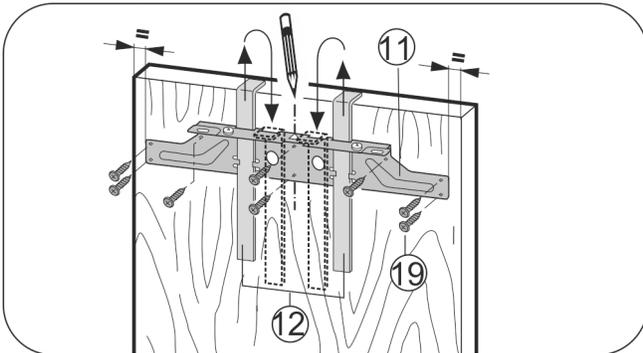

Fig. 29
- ▶ Hang the crosspiece Fig. 29 (11) on the inside of the unit door using the fitting aids Fig. 29 (12). With a 600 mm (1.97 ft) wide recess:
- ▶ Align the crosspiece Fig. 29 (11) to the middle of the door.
- ▶ Secure the crosspiece Fig. 29 (11) with at least 6 screws Fig. 29 (19).
- ▶ Secure the crosspiece Fig. 29 (11) with 4 screws Fig. 29 (19) at the edge.
- ▶ Lift up fitting aids Fig. 29 (12), turn round and insert into the adjacent openings.